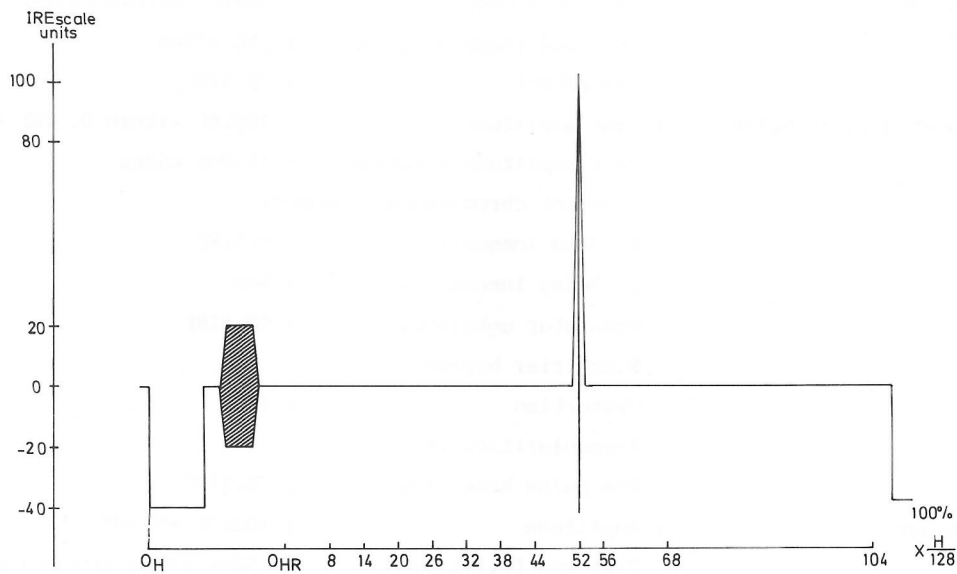

Fig. 3-12 $2T$ pulse
7. (L) $2T \sin^2$ pulse (See also fig. 3-12)
Timing : see fig. 3-12